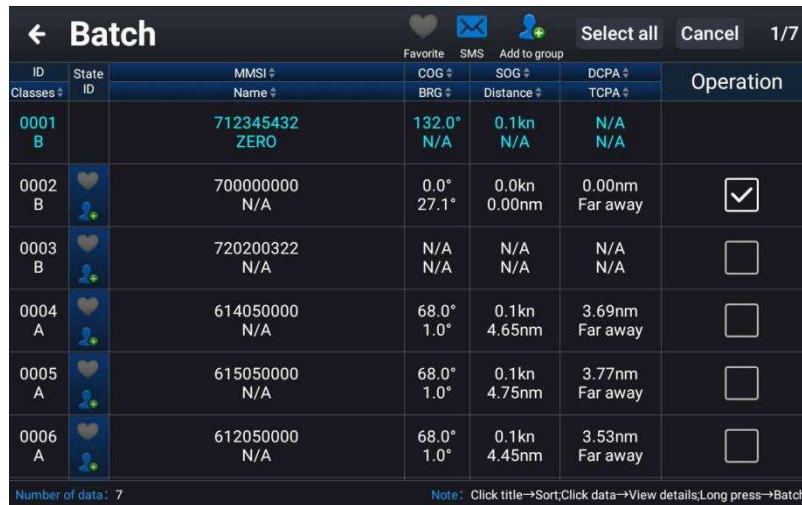

Figure 31 - Batch Operation.
3. Long press the data corresponding to a certain ship in the list, as shown in Figure 31 to batch follow the list of ships, send AIS short message, add the group, follow, etc.